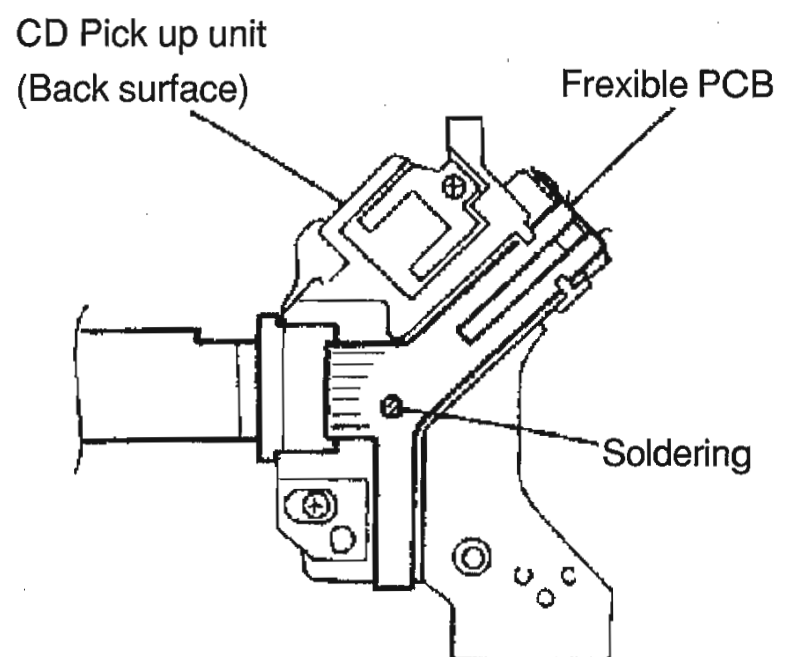

Fig.15
7. By soldering, fill the position on the back surface of the CD pickup unit (See Fig.15).